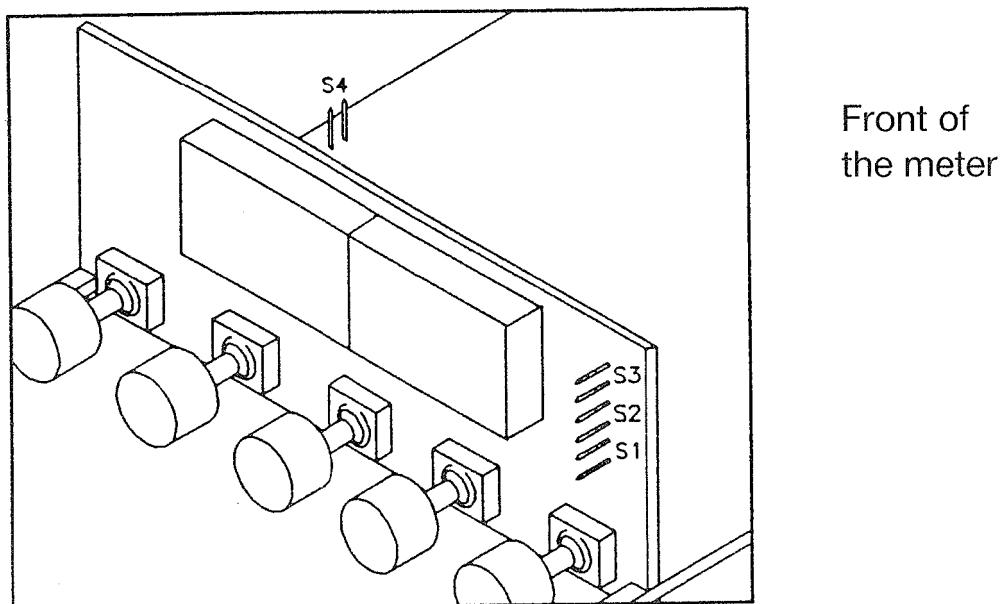

Figure 3-1 S1-S4 Jumpers
The S1, S2 and S3 Jumpers are at the front of the meter near the digital display. The S4 Jumpers is on side of the main board (refer to Figure 3-1). Remove the lens cover to access these jumpers.
2. Install jumper S4 to enable the calibration procedure (refer to Figure 3.1).